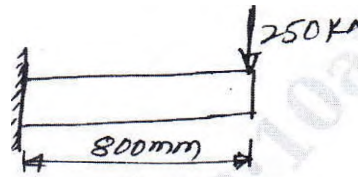

Fig.Q5(b)
- b. A cantilever beam subjected to a point load of 250 kN as shown in Fig.Q5(b). Determine the deflection at the free end and the support reactions. Take $E = 200 \text{ GPa}$, $I = 4 \times 10^6 \text{ mm}^4$. (08 Marks)